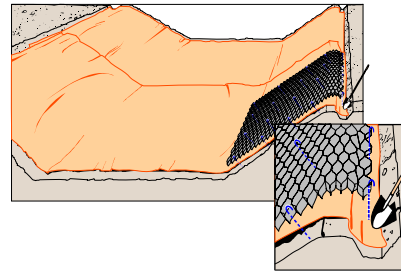

Figure 4 Placement of Geoweb® Section
- Expand the Geoweb® section down the channel side slopes to the section's specified length. See Figure 4.